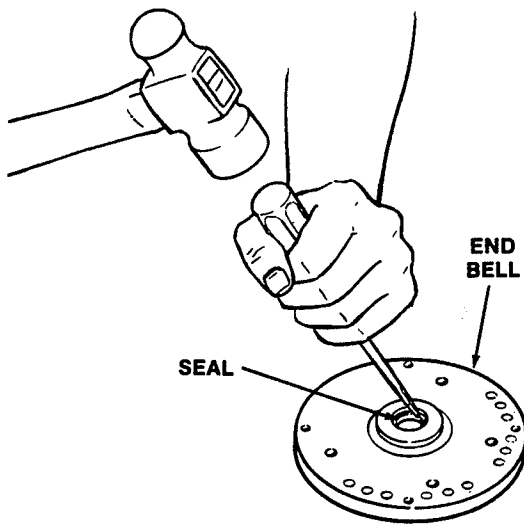

Figure 63. Removing Seal from End Bell
7. Using a common screwdriver and a hammer tap the old seal out as shown in Fig. 63.